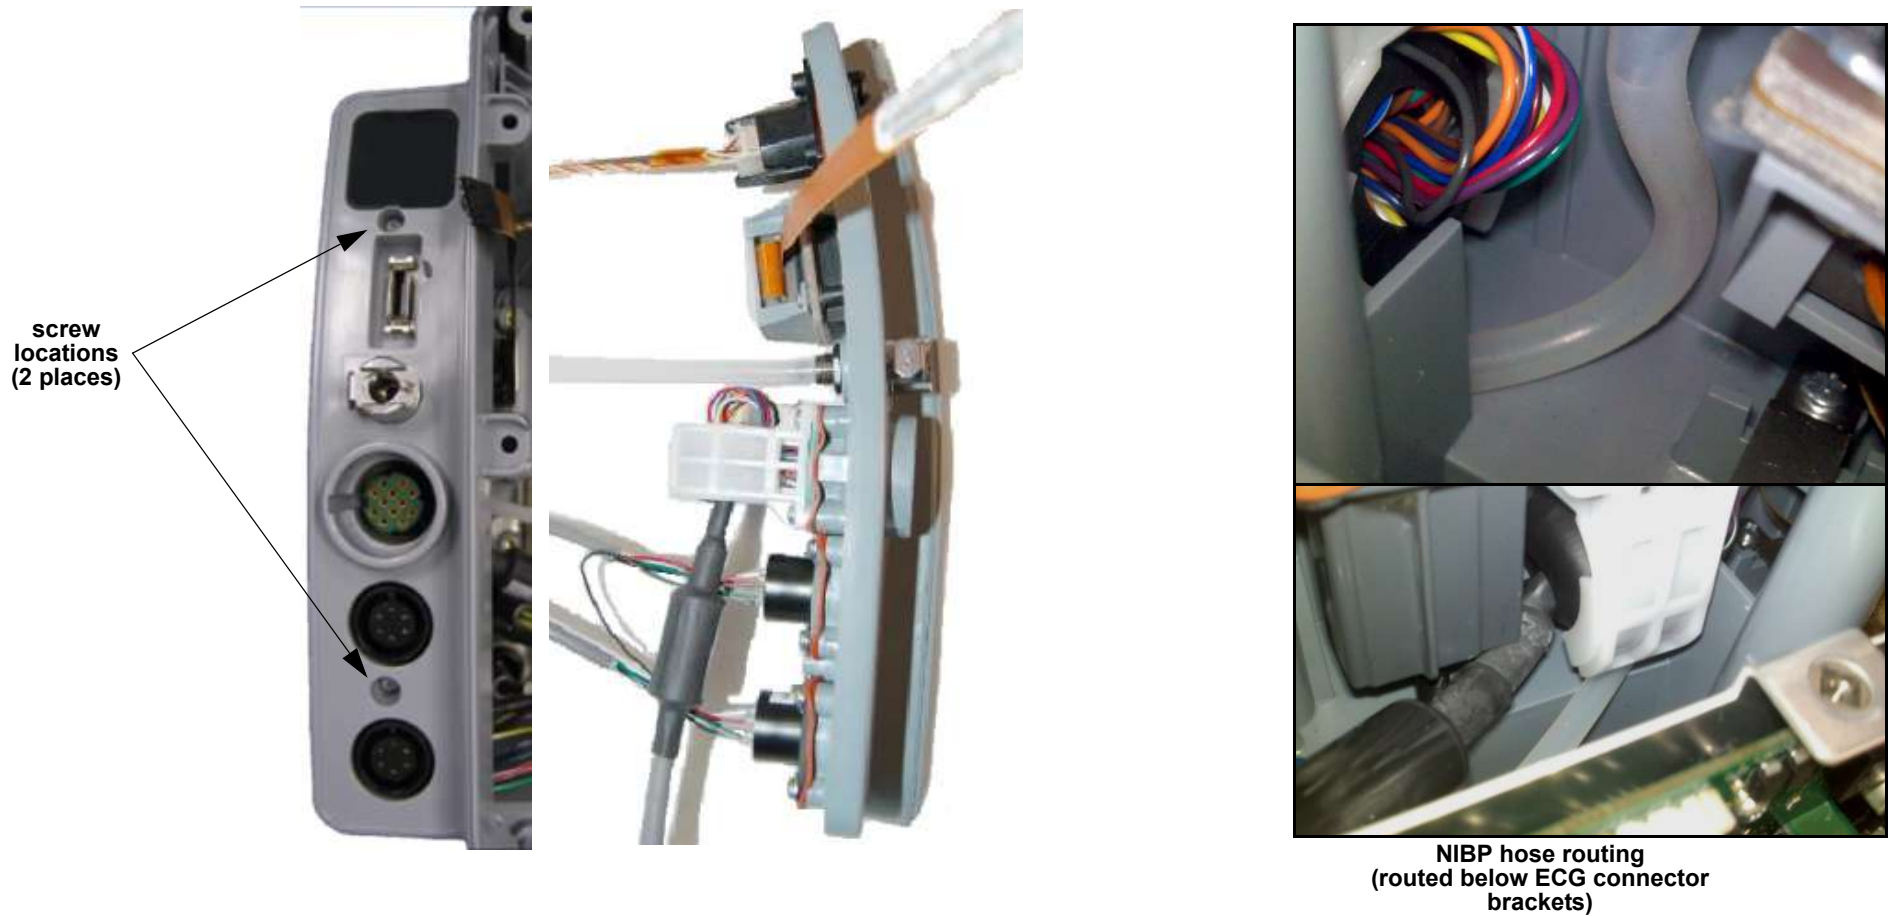

Figure 10.101—Parameter bezel component orientations
**NOTE: Ensure the NIBP hose isn't pinched by the ECG Brackets or rear case standoff. NIBP hose movement should be unrestricted in bezel cavity** (see Figure 10.101 on p. 430).